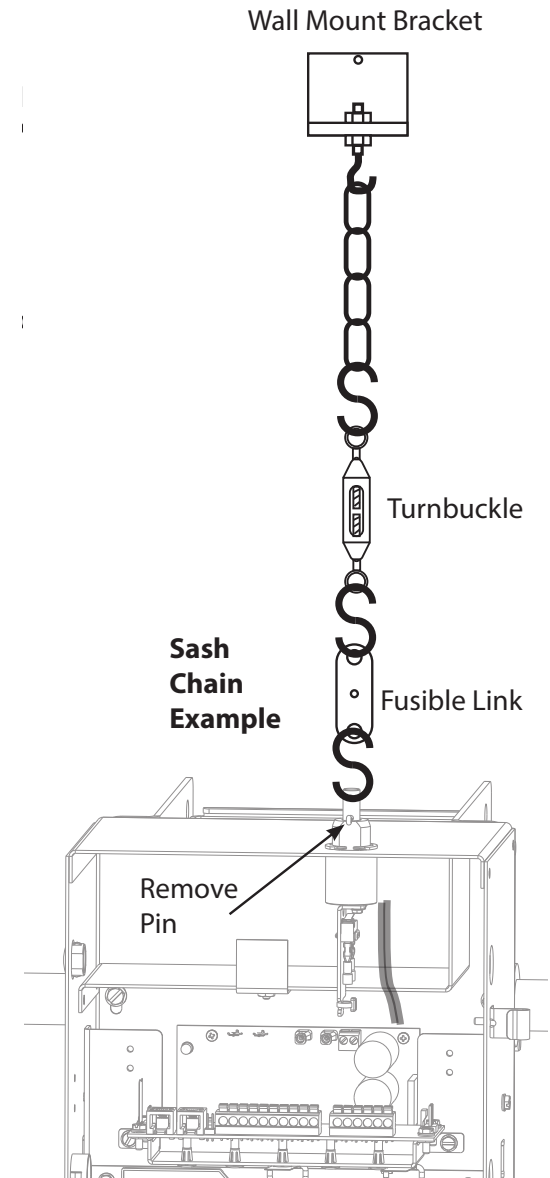

Figure 31
- Follow all recommendations for release chain installation per NFPA 80. Note direction of pull on switch. See Figure 31
- Remove fuse link switch pin to tension chain. Ensure switch holds tension on chain and does not contact internal switch. See Figure 31